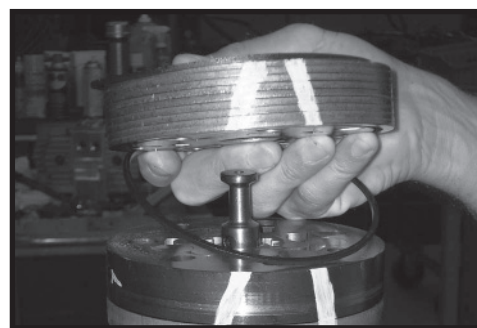

Figure 13
9. Remove manifold (7) and inspect for cracks surface scoring, brinelling or spalling. Replace manifold if any of these conditions exist. SEE FIGURE 13. A polished pattern on the ground surface from commutator or rotor rotation is normal. Remove and discard the seal rings (4) that are on both sides of the manifold.